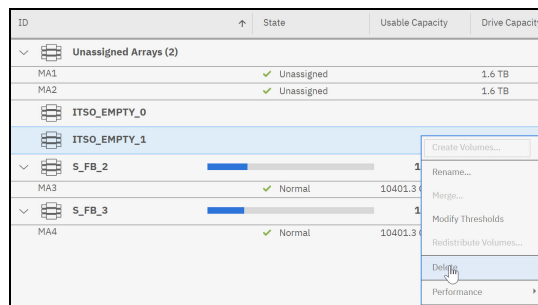

Figure 9-43 Deleting one pool of the pool pair
3. Choose one of the pools from the recently created pool pair to delete, as shown in Figure 9-43.